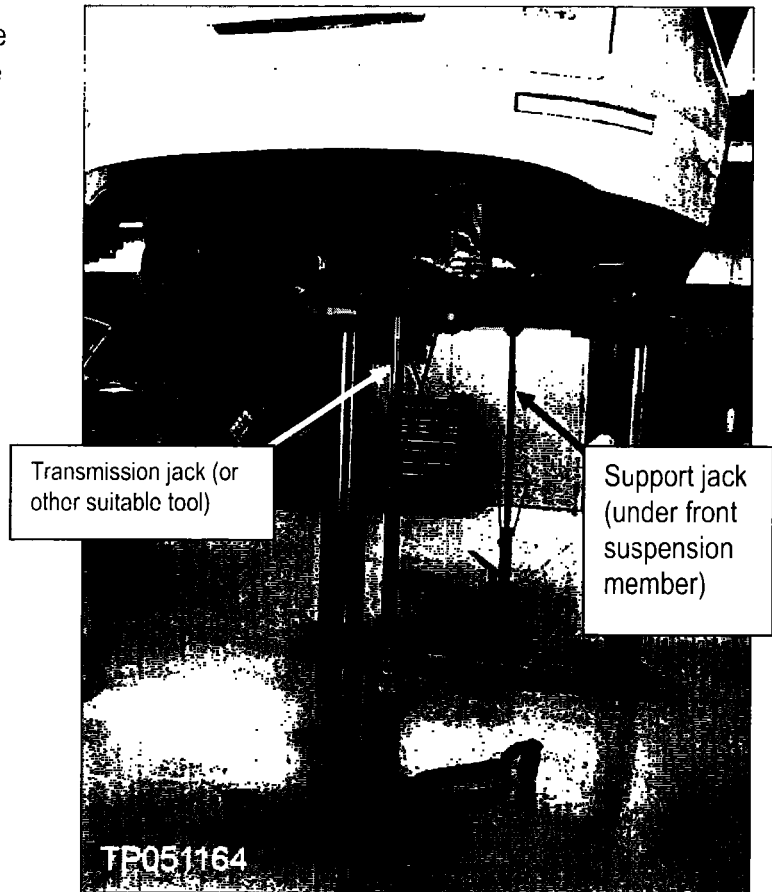

Figure 32
26. Place an additional support jack under the front suspension member to help stabilize the vehicle on the lift (see Figure 32).